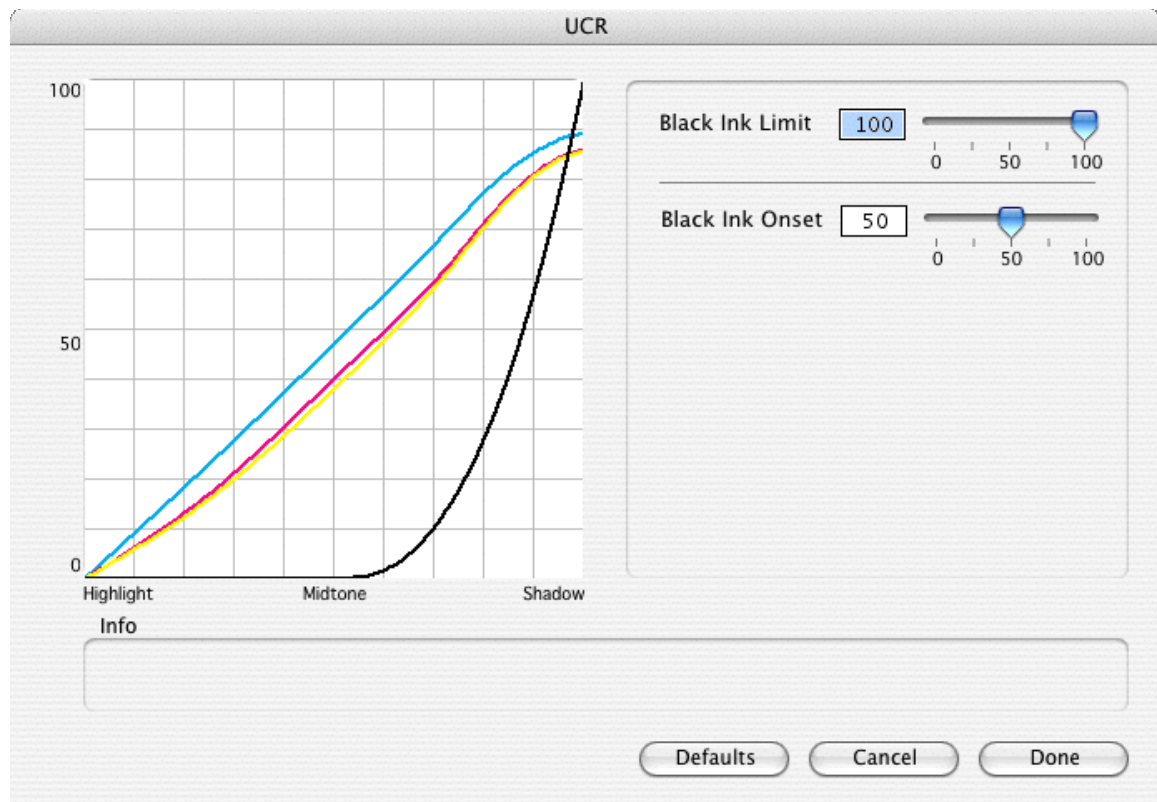

Figure 18. UCR Adjust Dialog Box
3. Click **Adjust**. The UCR adjustment dialog box is displayed. See Figure 18.